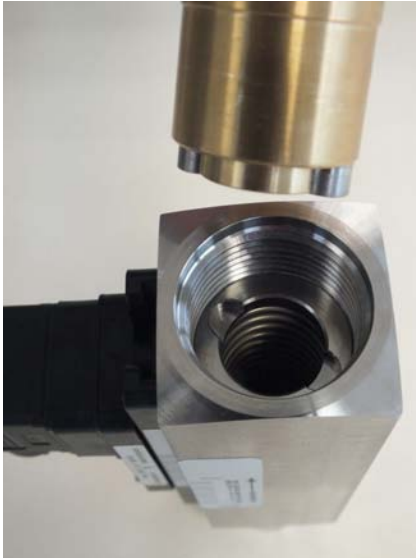

Fig. 42: Insert threaded ring insertion tool (inlet)
- 10.** ▶ Insert the threaded ring insertion tool into the device inlet (Fig. 42) and turn until it rest in the keyway of the threaded ring